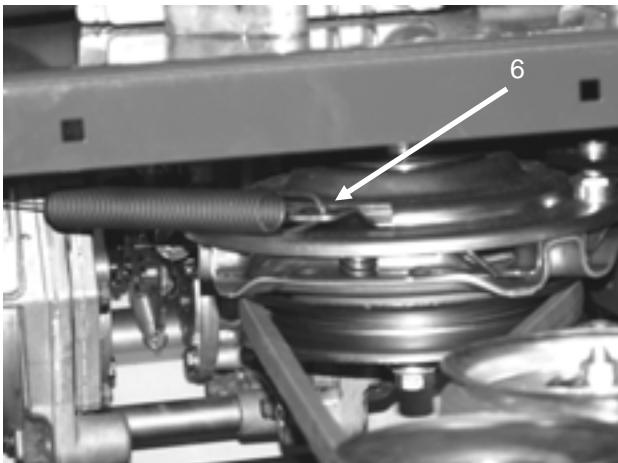

Figure 37
6. Disconnect the spring from the clutch engagement arm **Figure 37**.